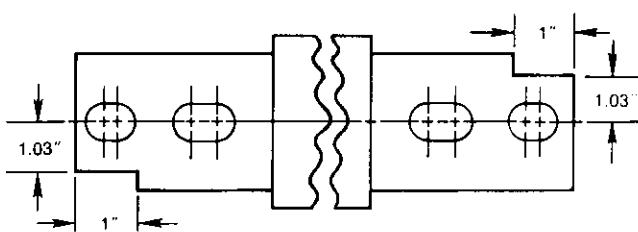

Figure 24. Notching of 1600 ampere fuse
① Fuse tangs must be notched per Fig. 24.
② The 2500 Amp. fuse size is not available on AKJU-50 models.